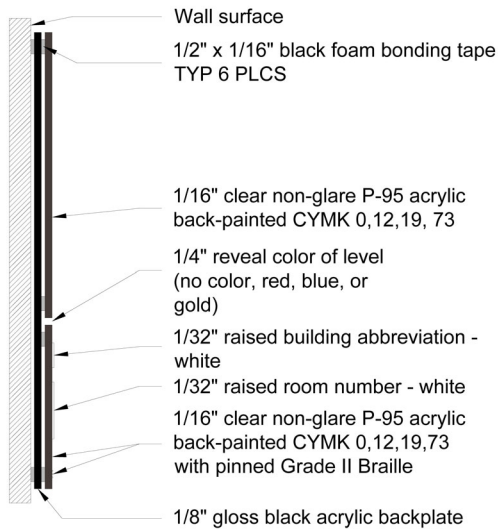

Figure 10.10
10.10.UMD A1 sign cross section shall comply with figure 10.10.
12.10. UMD B1 sign cross section shall comply with figure 10.10.